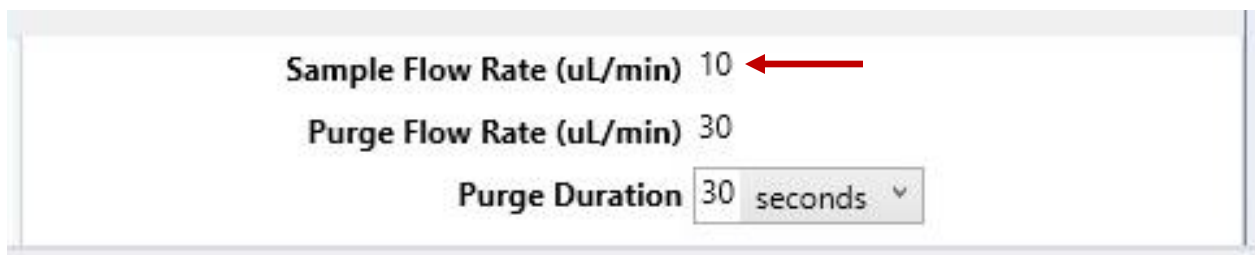

Figure 3.9 – Altering “Sample Flow Rate”
- Click on the number next to “Sample Flow Rate” and change it to either 3  $\mu\text{L}/\text{min}$  for DESI or 10  $\mu\text{L}/\text{min}$  for ESI (Figure 3.9).